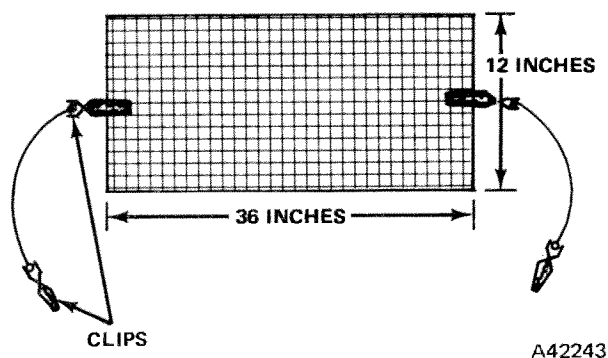

Fig. 3-88 Noise Suppression Tool
- (1) A defective antenna (refer to Radio Antenna Ohmmeter Tests).
- (2) Noise radiated upward from the dash.
- (3) Noise radiated from the engine compartment.
**Noise Radiated Upward from Dash:** Can be determined by improvising a tool made from a piece of aluminum or copper screen approximately 36 inches by 12 inches (fig. 3-88).